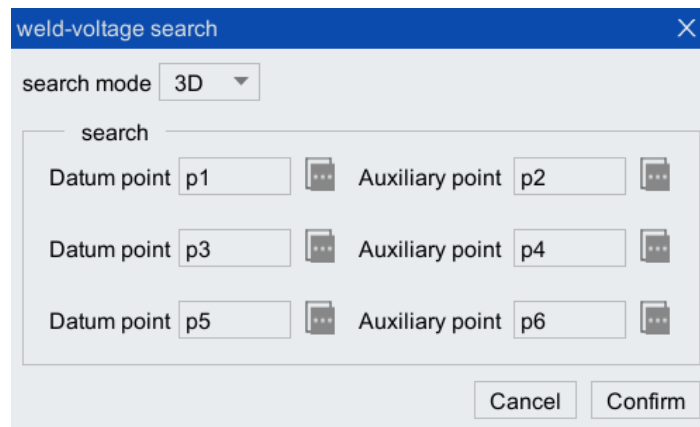

Figure 7-29 Weld seam search parameter configuration
Step1. Click [Insert cmd/Function pack/weld/Weld Command//Voltage search] to enter the voltage search auxiliary programming command interface. As shown in Figure 7-29. The parameter description is shown in Table 7-12.